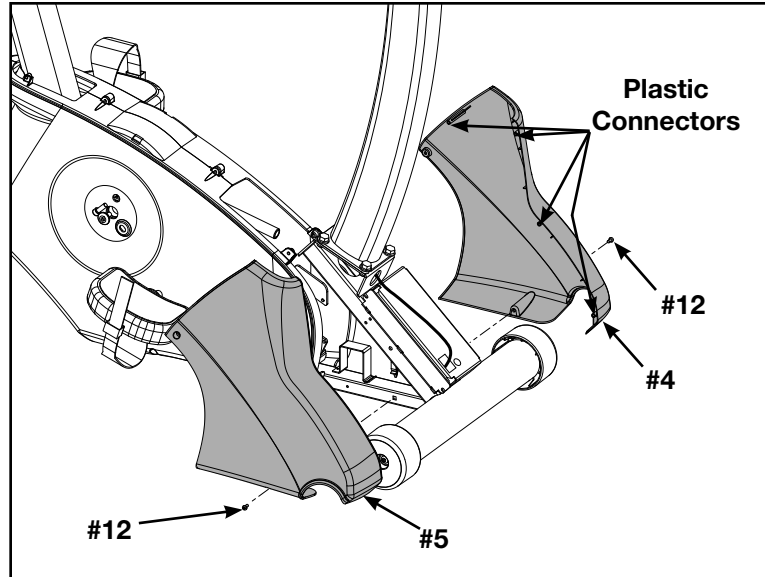

Figure 5
- A. Locate and place the front left cover (#4) on the front of the unit as shown in Figure 5.
**NOTE:** In addition to the mounting screws, there are four plastic connectors that secure the front covers together. Ensure that all four plastic connectors are inserted properly in each front cover. See Figure 5.
- C. Locate and place the front right cover (#5) on the front of the unit as shown in Figure 5.
- D. Using a Phillips screwdriver, secure with one screw 8-16 x .50" (#12). See Figure 5.